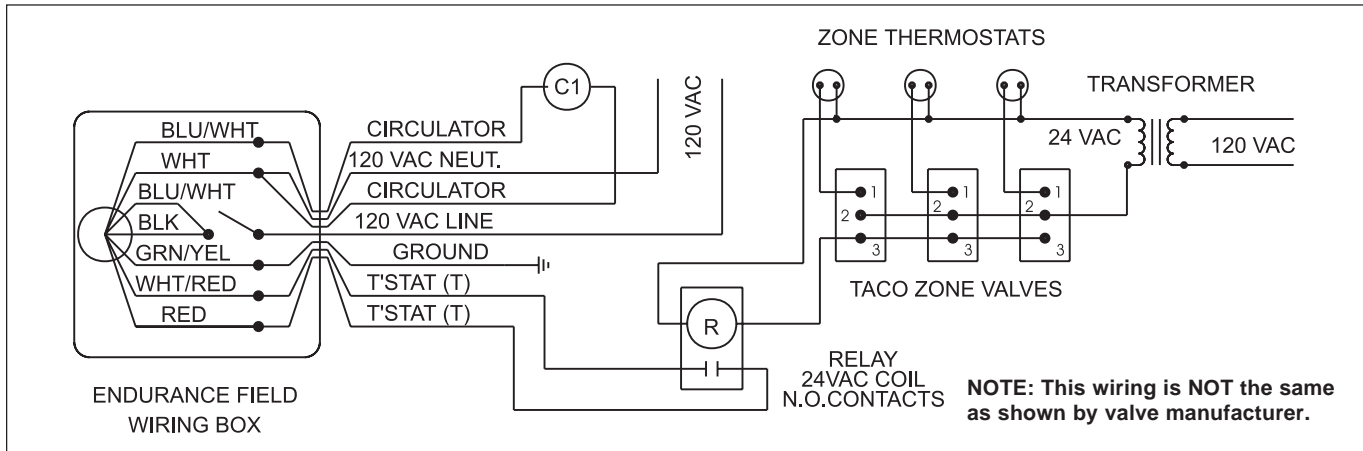

Figure 23. Multiple Zones with Three Wire Zone Valves (Requires Isolation Relay).
**NOTE:** On zone valve systems such as Taco, Automag and others which do not have isolated (dry) contact end switches, a single pole isolating relay must be utilized (see Figure 23).